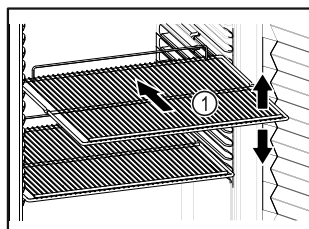

Fig. 61 Example illustration
- ❑ If there are adjustable shelves Fig. 61 (1), position them as required.